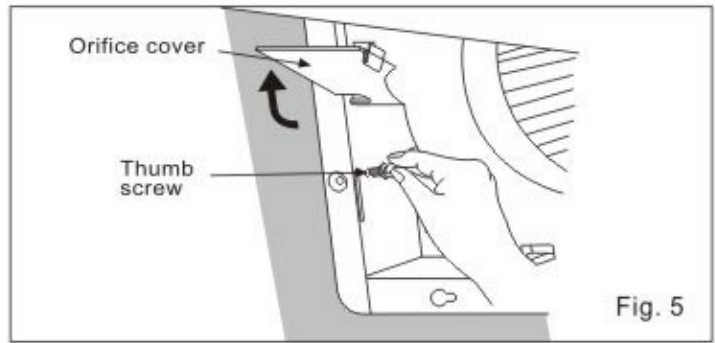

Fig. 5
8. Open the orifice cover, secure fan body to adaptor using thumb screw. (Fig.5)
5. Secure the adaptor and fan body using thumb screw. (Fig.5)